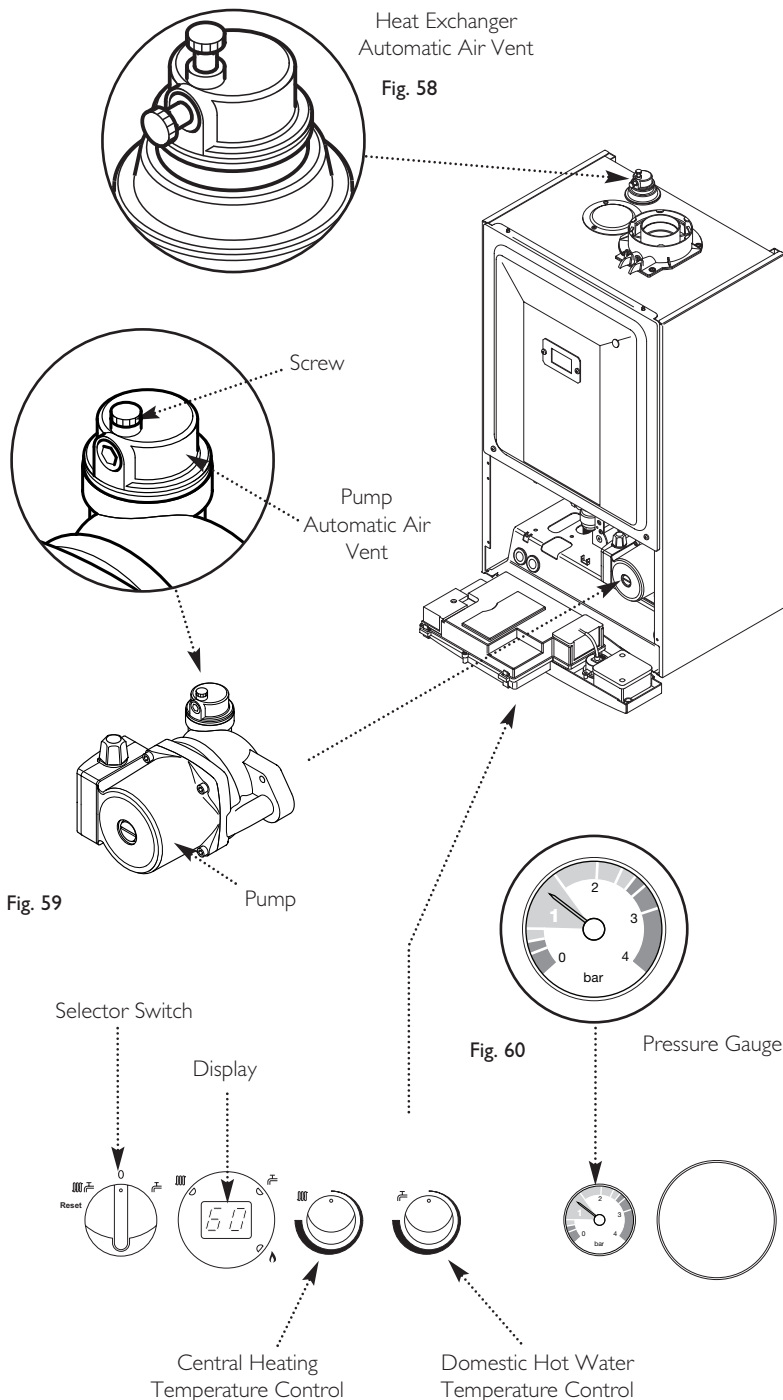

Fig. 61
11. Turning either of the temperature control knobs will set the relevant temperature. When the knob is turned the display will alter and show the selected temperature. After a few seconds the display reverts to show the current boiler temperature (Fig. 61).